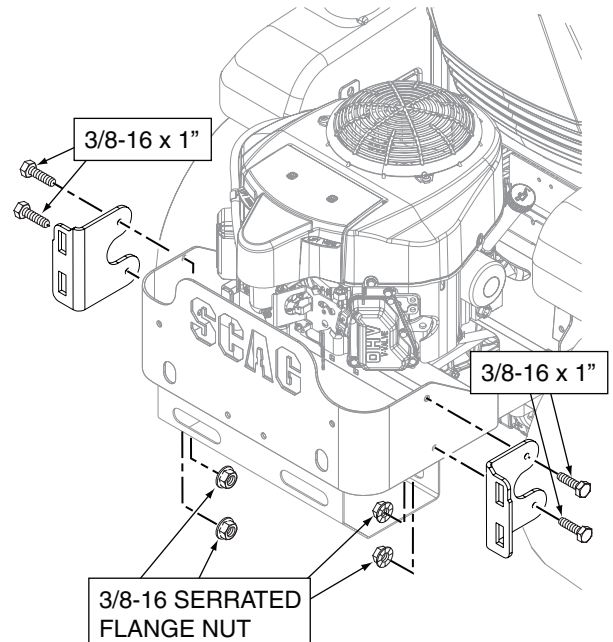
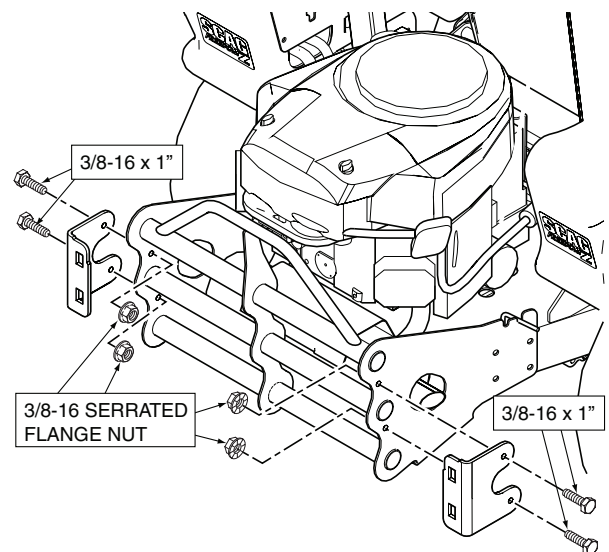

Figure 2-13. SZL36 / SZ42 GC Mounting Bracket Installation
Figure 2-14. GC Mounting Bracket Installation
- Install the left and right side grass catcher mounting brackets to the rear of the machine. Secure using (4) 3/8-16 x 1" hex head bolts and (4) 3/8-16 serrated flange nuts. See Figure 2-13 for SZL36 / SZL42 and Figure 2-14 for all other models.